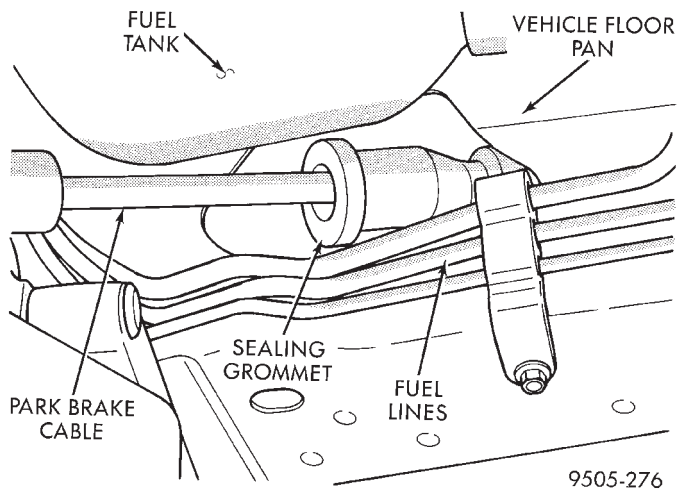

Fig. 146 Park Brake Cable Removal / Installation At Floor Pan
(29) Remove the park brake cable and sealing grommet (Fig. 146) from the floor pan of the vehicle.
(1) Install the park brake cable into the floor pan. Make sure sealing grommet on park brake cable (Fig. 146) is installed in floor pan as far as possible to insure a proper seal.